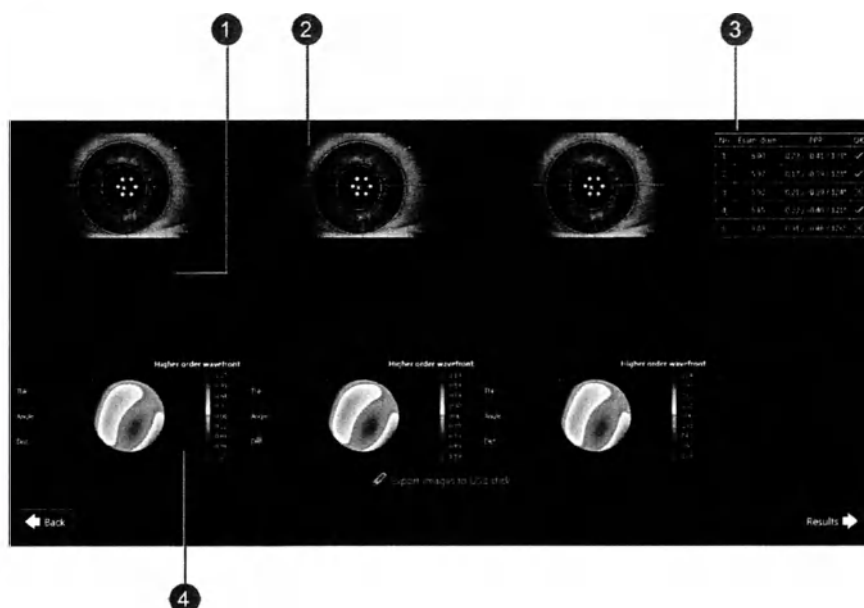

Fig. 86: ZYWAVE 3 iris images raw data
⇒ The iris images in raw data are displayed allowing you to verify them immediately after the measurement is completed (Fig. 86).
1. ➤ Click one of the pupil pictures (Fig. 86/3) to enlarge and verify it.